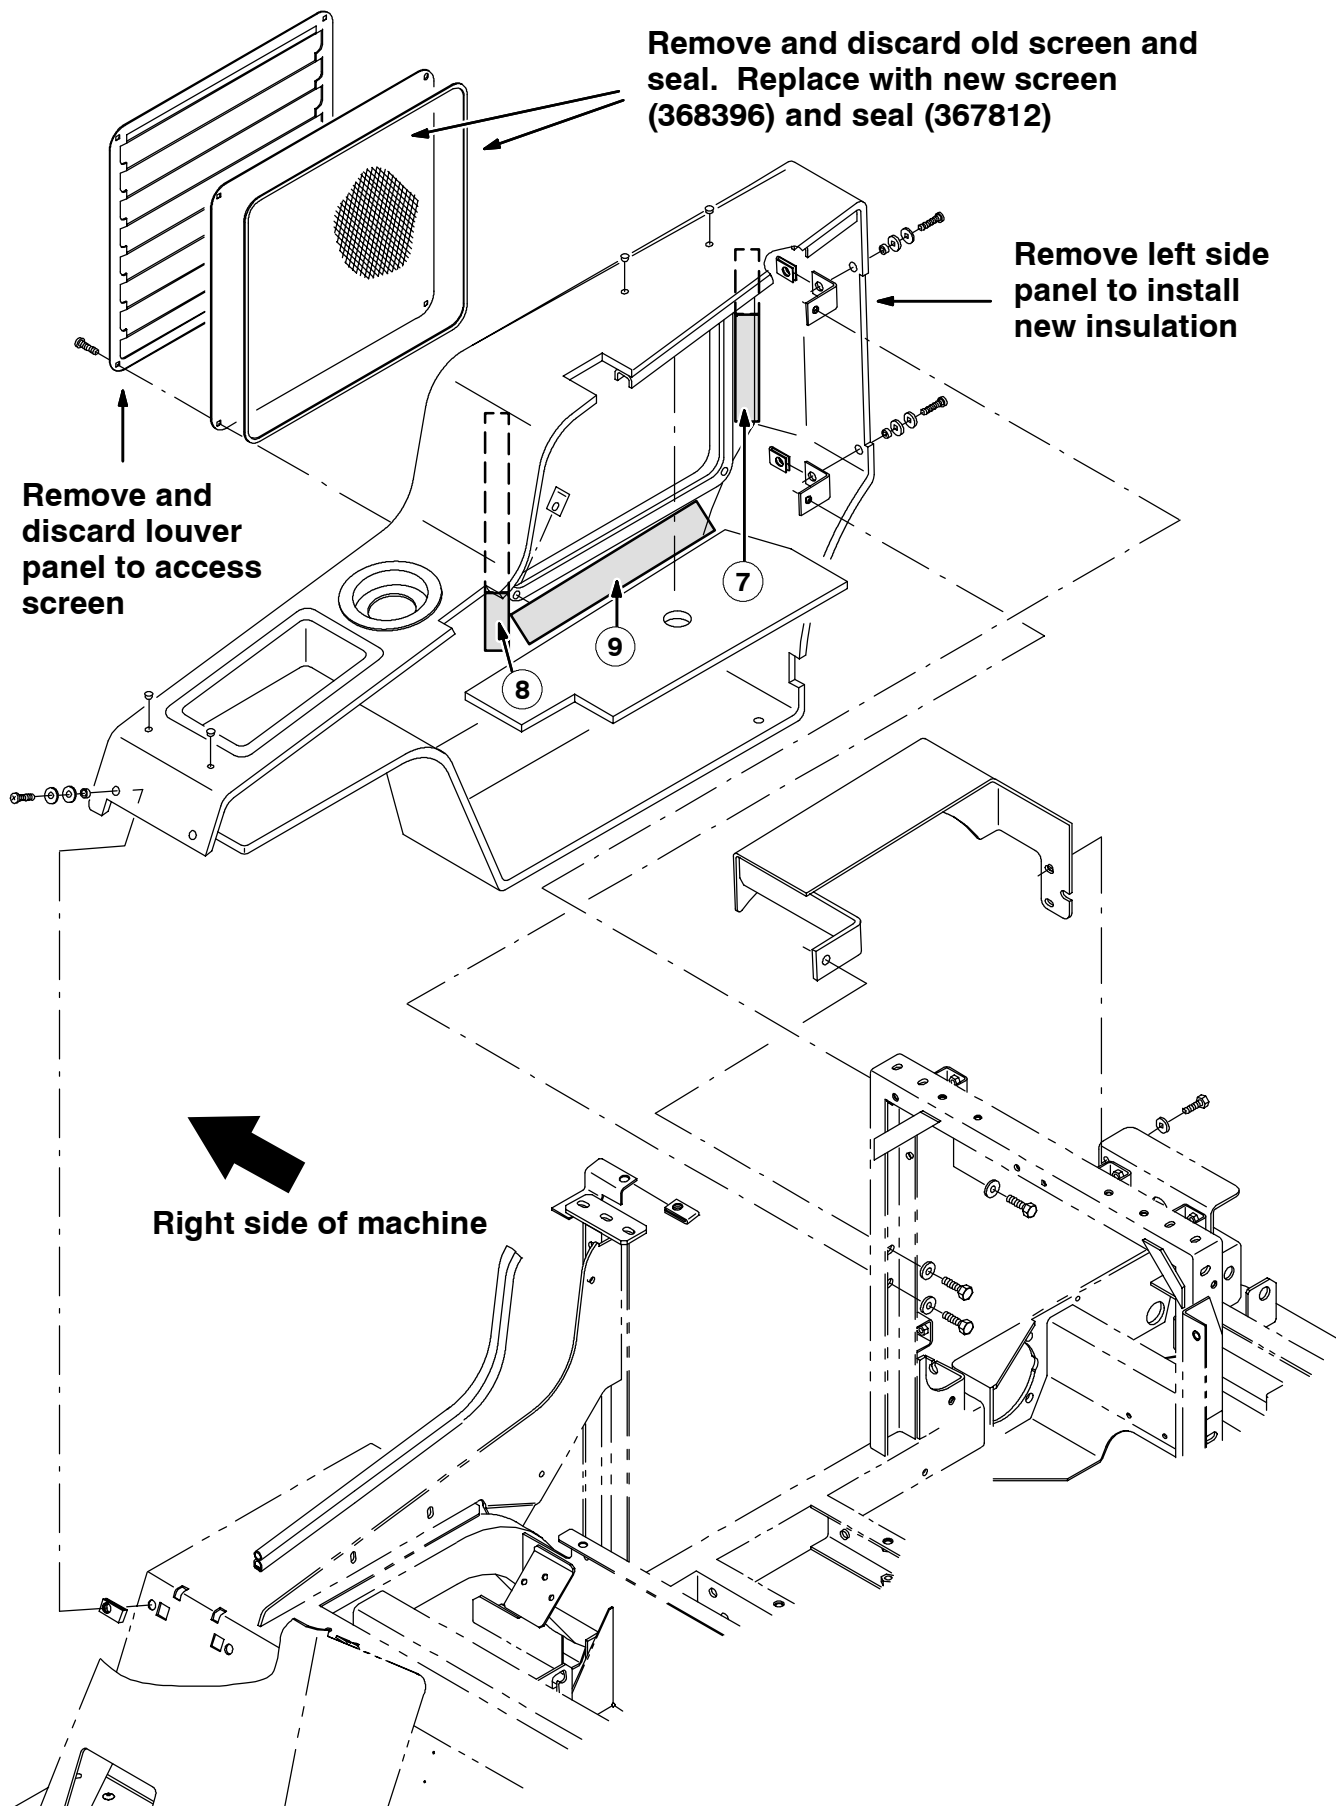

FIG. 2 - NEW DUST SCREEN AND WEATHER SEAL INSTALLATION
7. **For machines with serial numbers 1254 and later**, the acoustic insulation seals (7, 8, and 9) are factory installed. If the seals are still in good condition, there is no need to replace them. Older machines without the seals (7, 8, and 9), need to have the right side panel removed and the seals installed. (Refer to FIG. 2)
8. Remove and discard the existing louver panel and screen from the right side of the machine. (Refer to FIG. 2)
9. Clean the hydraulic cooler and radiator thoroughly. (Refer to FIG. 2)
10. Install the new wavy screen design (6) and seal (10) in place of the old screen seal and louver panel. (Refer to FIG. 2)